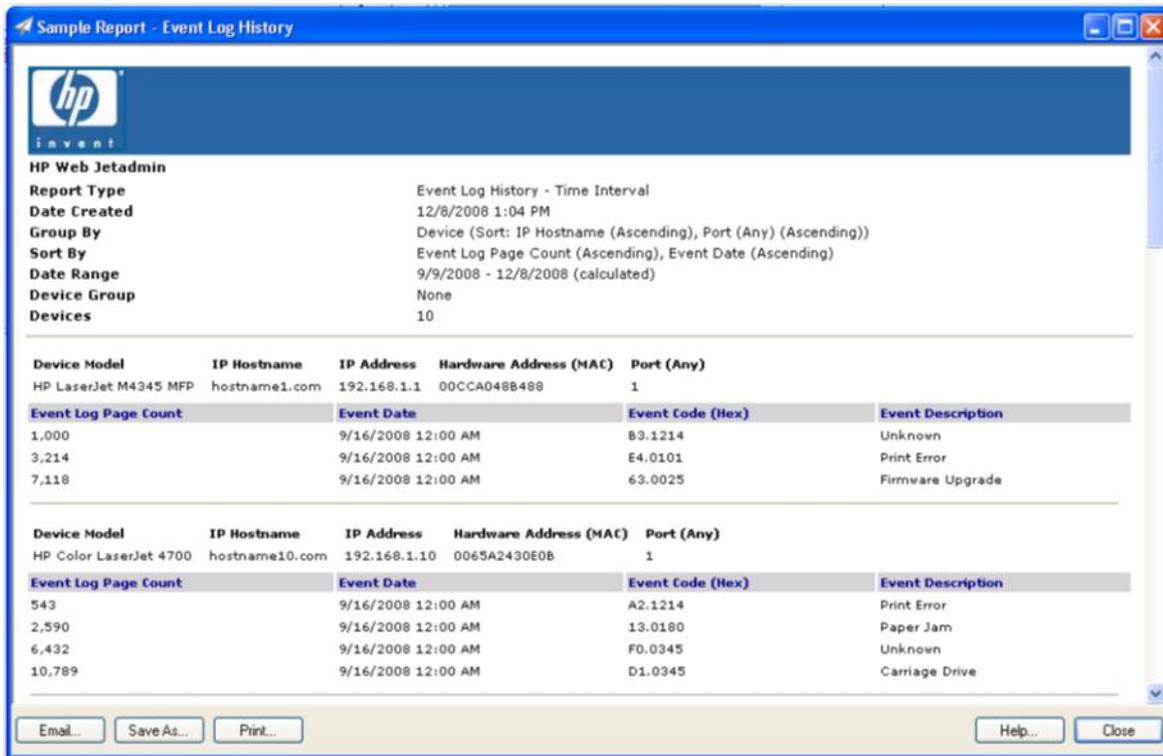

Figure 30: Event Log History report
- **Under Report Data**, select the specific data relating to the event log that appears as columns in the report (Figure 30). All the values are defined by the **Date range** selected. The following are the available items: